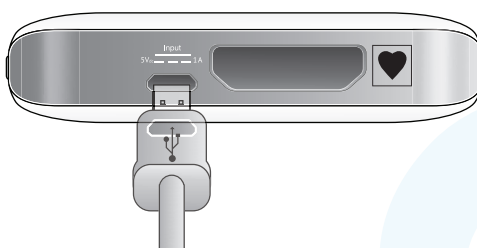

Fig. 3.1.1b
- B. Micro USB Port :** Used for charging the QT ECG Recorder with the wall charger (included) (Fig. 3.1.1b)